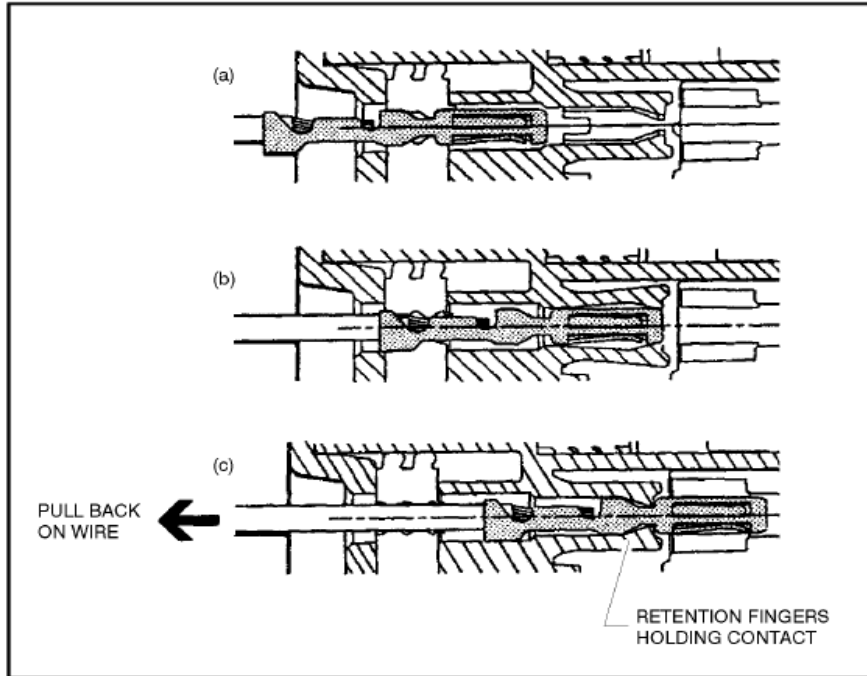

Figure 11-7. Connector Assembly Figure 2
1. To insert a contact, push it straight into the appropriate circuit cavity as far as it will go (See Figure 11-7).
2. Pull back on the contact wire with a force of 1 or 2 lbs. to be sure the retention fingers are holding the contact (See Figure 11-7).